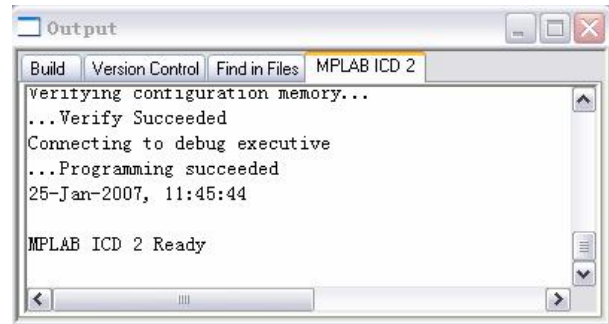

Figure 5-5 Programming Information
- 5) Implement menu command Debugger→Program or the icon in the tool bar to program/burn the objective codes to the target MCU chip (Note: now the MCU cannot run on offline mode but has to be run under debugging mode), after programming it will show a message as in Figure 5-5.